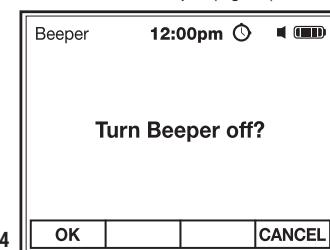

Fig. 24
2. Use the **F1 OK** soft key to turn the beeper on or off and return to Meter Settings (Fig. 24). The \blacksquare symbol will appear on the display when the beeper is on.